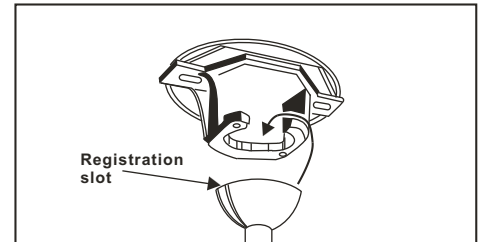

Figure 10
6. Now lift motor assembly into position and place hanger ball into hanger bracket. Rotate until the check groove drops into the registration slot and seats firmly. (Figure 10) Downrod should not rotate if this is done correctly.